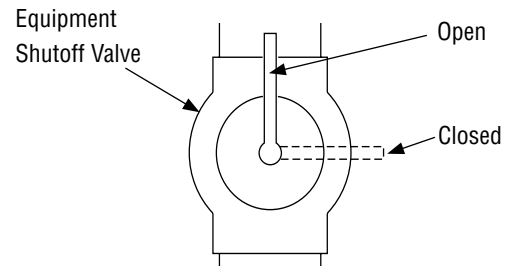

Figure 14 - Equipment Shutoff Valve
We recommend that you install a sediment trap in supply line as shown in *Figure 14*. Locate sediment trap where it is within reach for cleaning. Install in piping system between fuel supply and heater. Locate sediment trap where trapped matter is not likely to freeze. A sediment trap traps moisture and contaminants. This keeps them from going into heater controls. If sediment trap is not installed or is installed wrong, heater may not run properly.
1. Close equipment shutoff valve (see *Figure 14*).